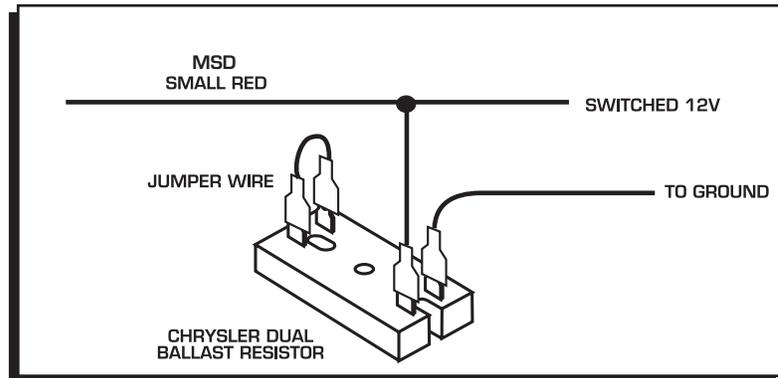

Figure 8 Wiring the Dual Ballast Resistor for Run-On.
**Most other applications:** On other applications where engine Run-On is experienced, a Resistor can be put in-line to the MSD's small Red wire (Figure 8). This resistor will keep voltage from leaking through to the MSD unit.